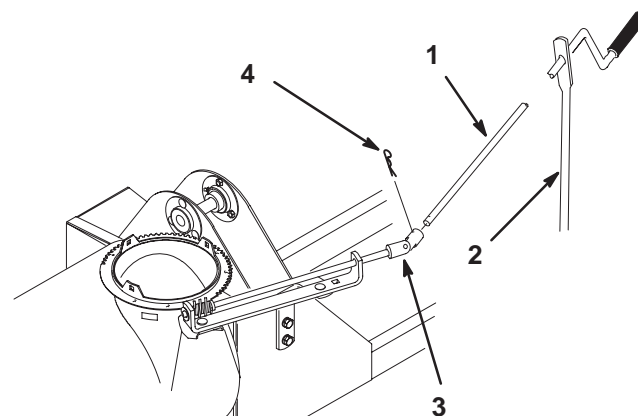

Figure 27
4. Remove the chute control rod by removing the hairpin cotter connecting it to the universal joint (Fig. 27). Slide the chute control rod out of the end of the crank support.